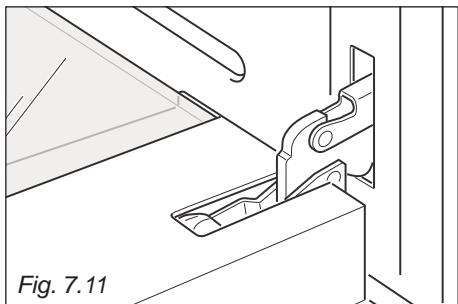

Fig. 7.11
- Open the door to the full extent (fig. 7.11).